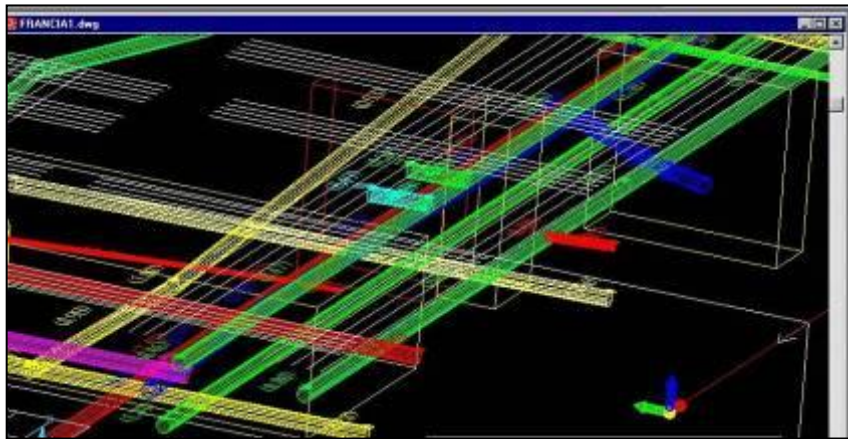

Fig. 3.7 – 3D View in iron wire mode
9. *Unshade 3D Objects*  allows you to view the 3D elements in the so-called “iron wire” view Fig. 3.7.